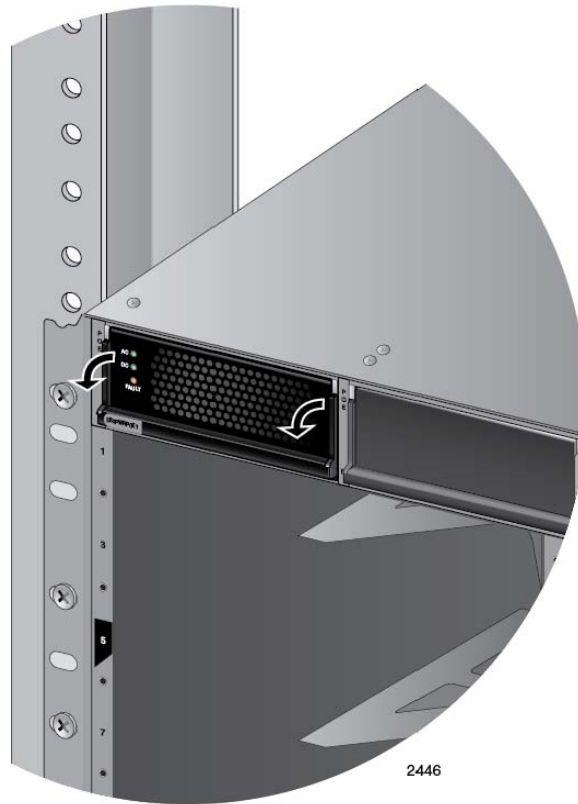

Figure 57. Locking the Handle on the AT-SBxPWRPOE1 Power Supply
6. Lower the locking handle of the power supply module to secure the module in the slot, as shown in Figure 57.